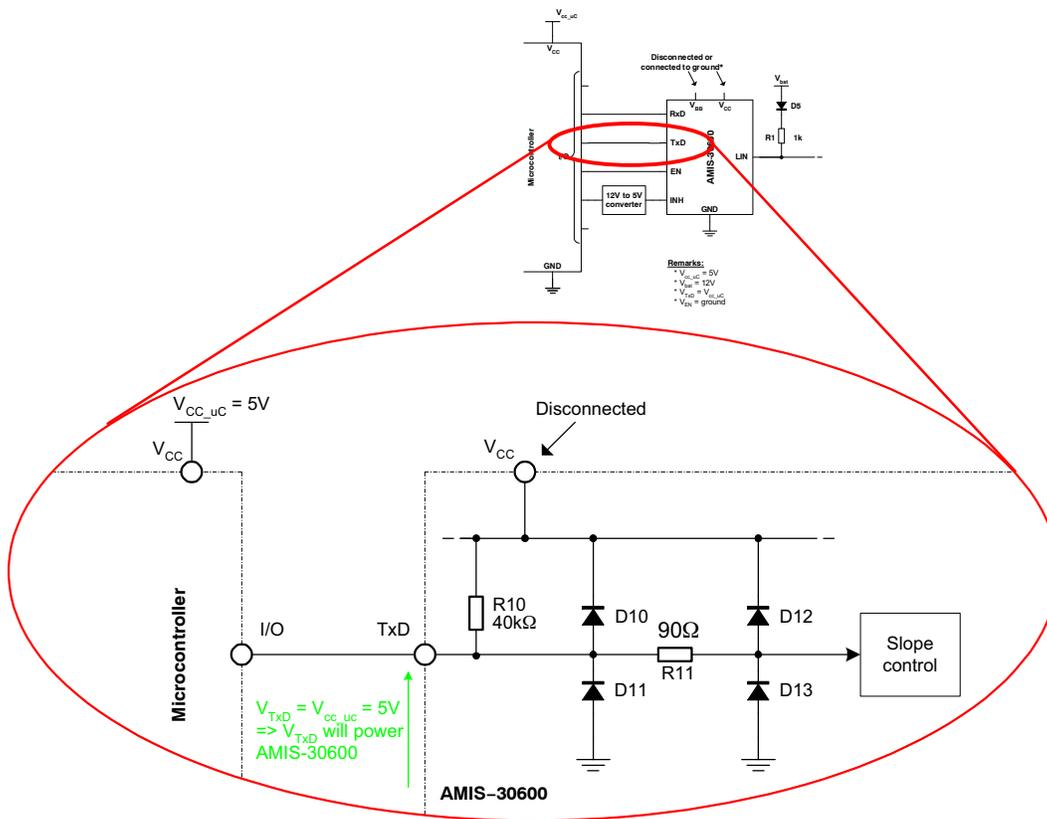

Figure 14.  $V_{TxD}$  will Power AMIS-30600 when  $V_{CC}$  is Disconnected11
**TxD-Pin:** When  $V_{CC}$  is disconnected ( $V_{BB}$  disconnected or connected to ground), the TxD-pin will power  $V_{CC}$  of the AMIS-30600 (see Figure 14). Keep in mind that there is a
Connecting  $V_{CC}$  to ground may not be done. This will result in a large current because of the ESD protection diodes D10 and D12 (see Figure 14).